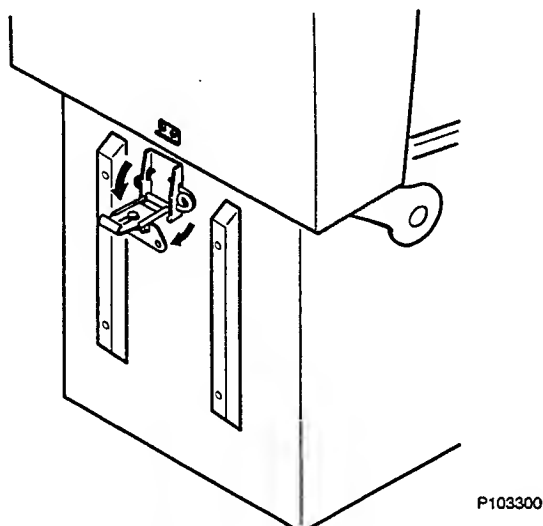

FIGURE 5: LATCH ON BACKBOX
6) Lift the cabinet latch and flip key upwards to the upright position. Turn the key counterclockwise (to the left) (see Figure 5).